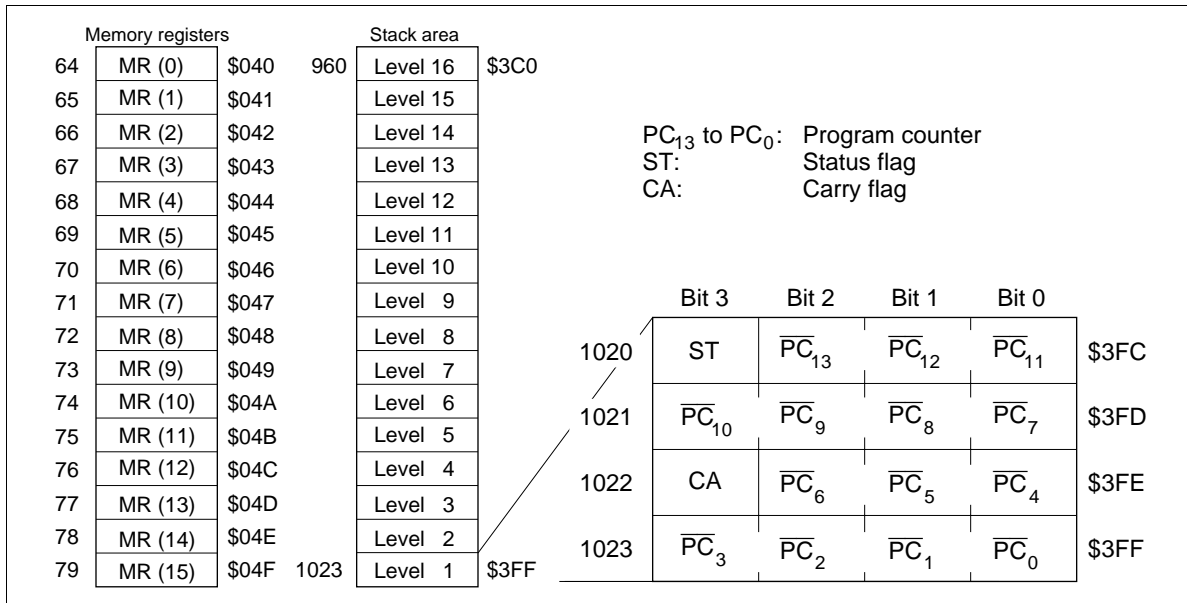

Figure 4 Configuration of Memory Registers, Stack Area, and Stack Position
Data Area (\$040 to \$2CF, \$100 to \$2CF; Bank 0/1): The 16 digits of \$040 through \$04F are called memory registers (MR) and are accessible by the LAMR and XMRA instructions (figure 4). 464 digits of \$100 through \$2CF are selected as bank 0 or 1 depending on the value of the V register.
Figure 4 shows the save condition. The program counter is restored by the RTN and RTNI instructions. The status and carry flags are restored only by the RTNI instruction. This area, when not used as a stack, is available as a data area.